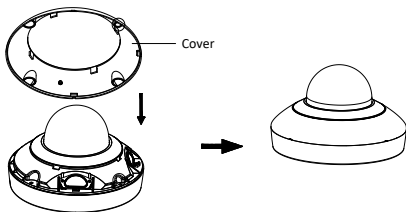

Figure 2-6 Install the Cover
5. Align the cover with the camera, and install the cover back, as shown in Figure 2-6.